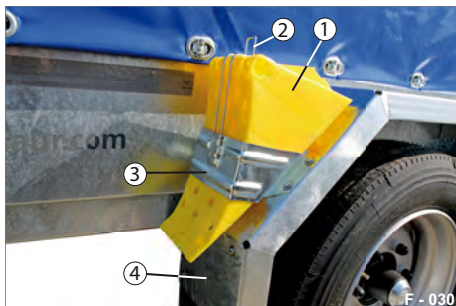

Fig. 56 Wheel chocks, unsecured
- ▶ Press down the retaining spring (Fig. 56/2) from the chock.
- ▶ Pull the chock (Fig. 56/1) out of the holder.
- ▶ Insert the chock fully into the holder (Fig. 56/3).
The retaining spring (Fig. 56/2) automatically secures the chock.